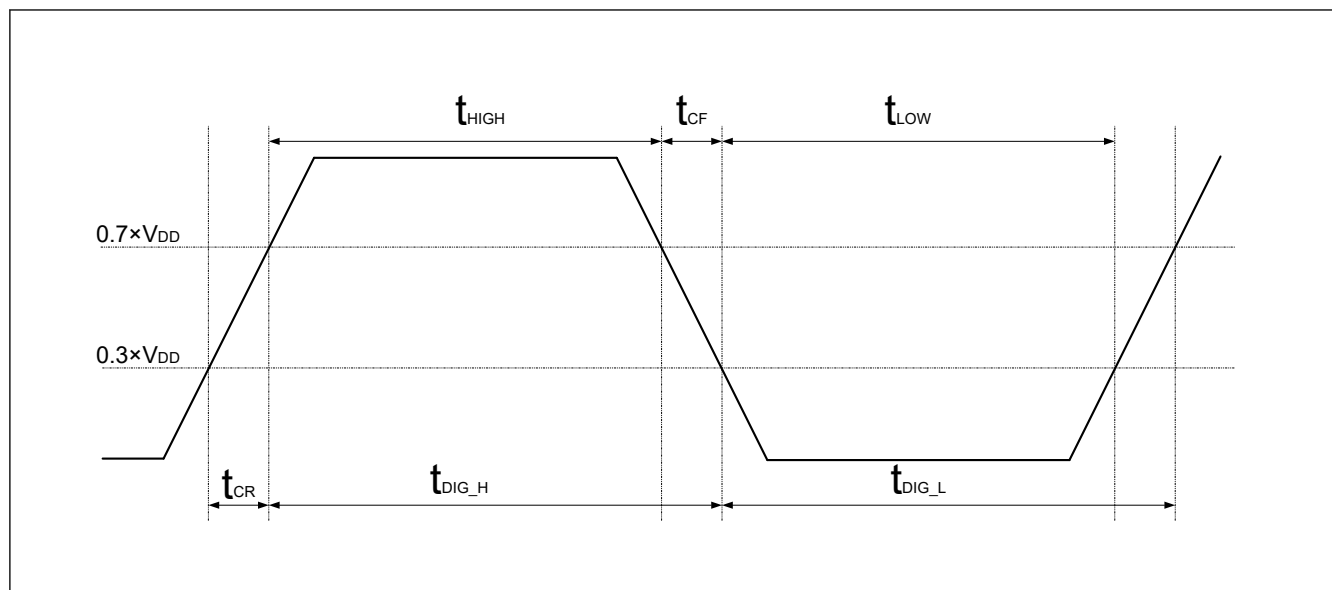

Figure 2.34 $t_{\text{DIG_H}}$ and $t_{\text{DIG_L}}$
2. t_{DIG_L} and t_{DIG_H} are the clock Low and High periods as seen at the receiver end of the I3C Bus using VIL and VIH (see Figure 2.34)